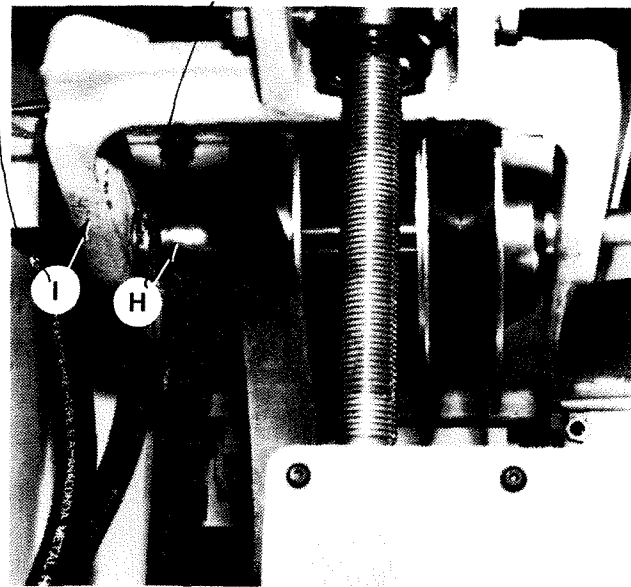

Figure 3.9 - Belt Removal from Countershaft
20. Slide countershaft assembly "H", Figure 3.9, to the extreme right and remove both belts over the left end of the countershaft.
26. Slide the new motor belt over the left end of countershaft assembly "H", Figure 3.9, and onto the right pulley on the countershaft assembly.